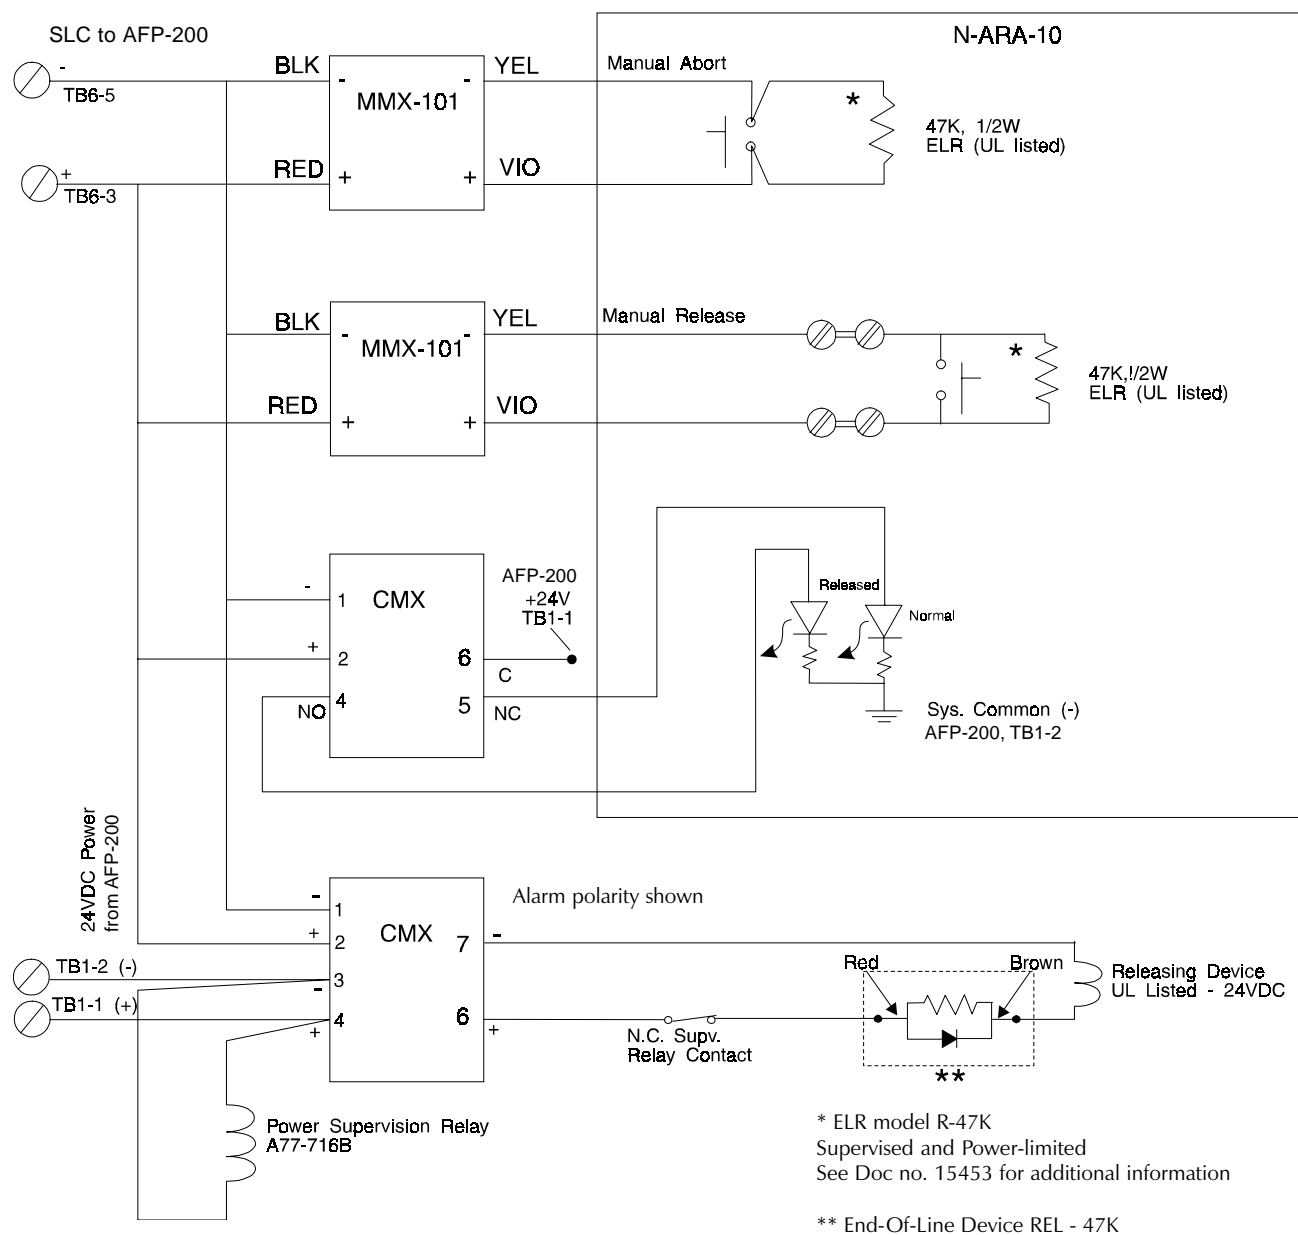

Figure D-4 Employing N-ARA-10 Agent Release-Abort Station
3. Connect the end-of-line device as shown in Figure D-4.